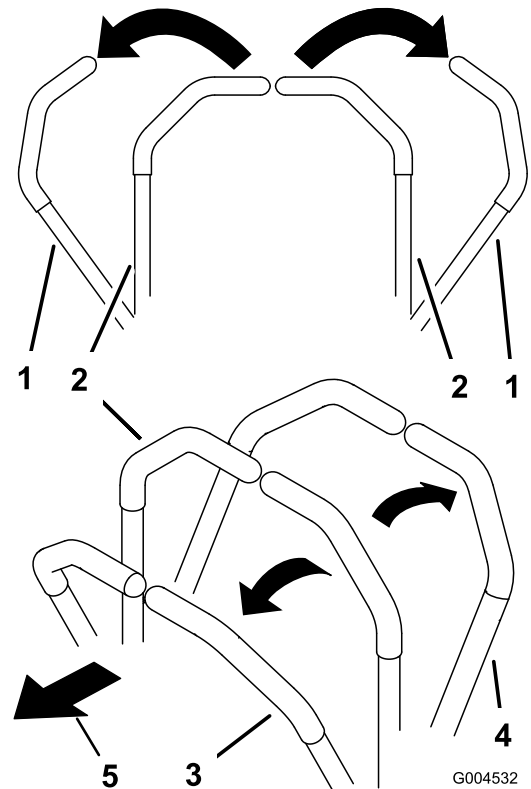

Figure 18
1. Move the motion control levers (Figure 18) out to the neutral locked position.
- To go straight forward, slowly push the motion control levers forward (Figure 18).
- To go Straight backward, slowly pull the motion control levers rearward (Figure 18).
- To turn, slow the machine by pulling back on both levers and then push forward on the lever on the opposite side from which you want to turn (Figure 18).